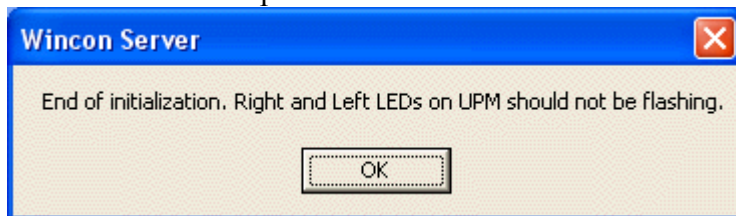

Figure 16: Message prompted after running UPM boot WCP.
8. The *Left* and *Right* LEDs should stop flashing and the window shown in Figure 16 should be prompted. If the LEDs are no longer blinking, then the UPM amplifier is ready to be used for the various ST II experiments.